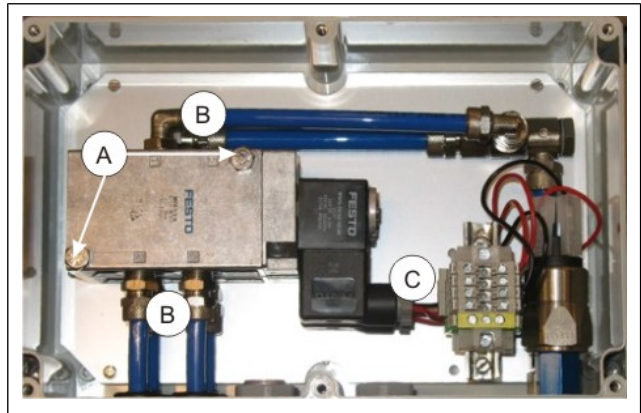

Fig. 5. Replacing the air valve.
3. Remove the screws (Fig. 5, part A).
4. Disconnect air tubes (B) from the actuator as necessary.
5. Detach the socket (C) from the side of the solenoid.